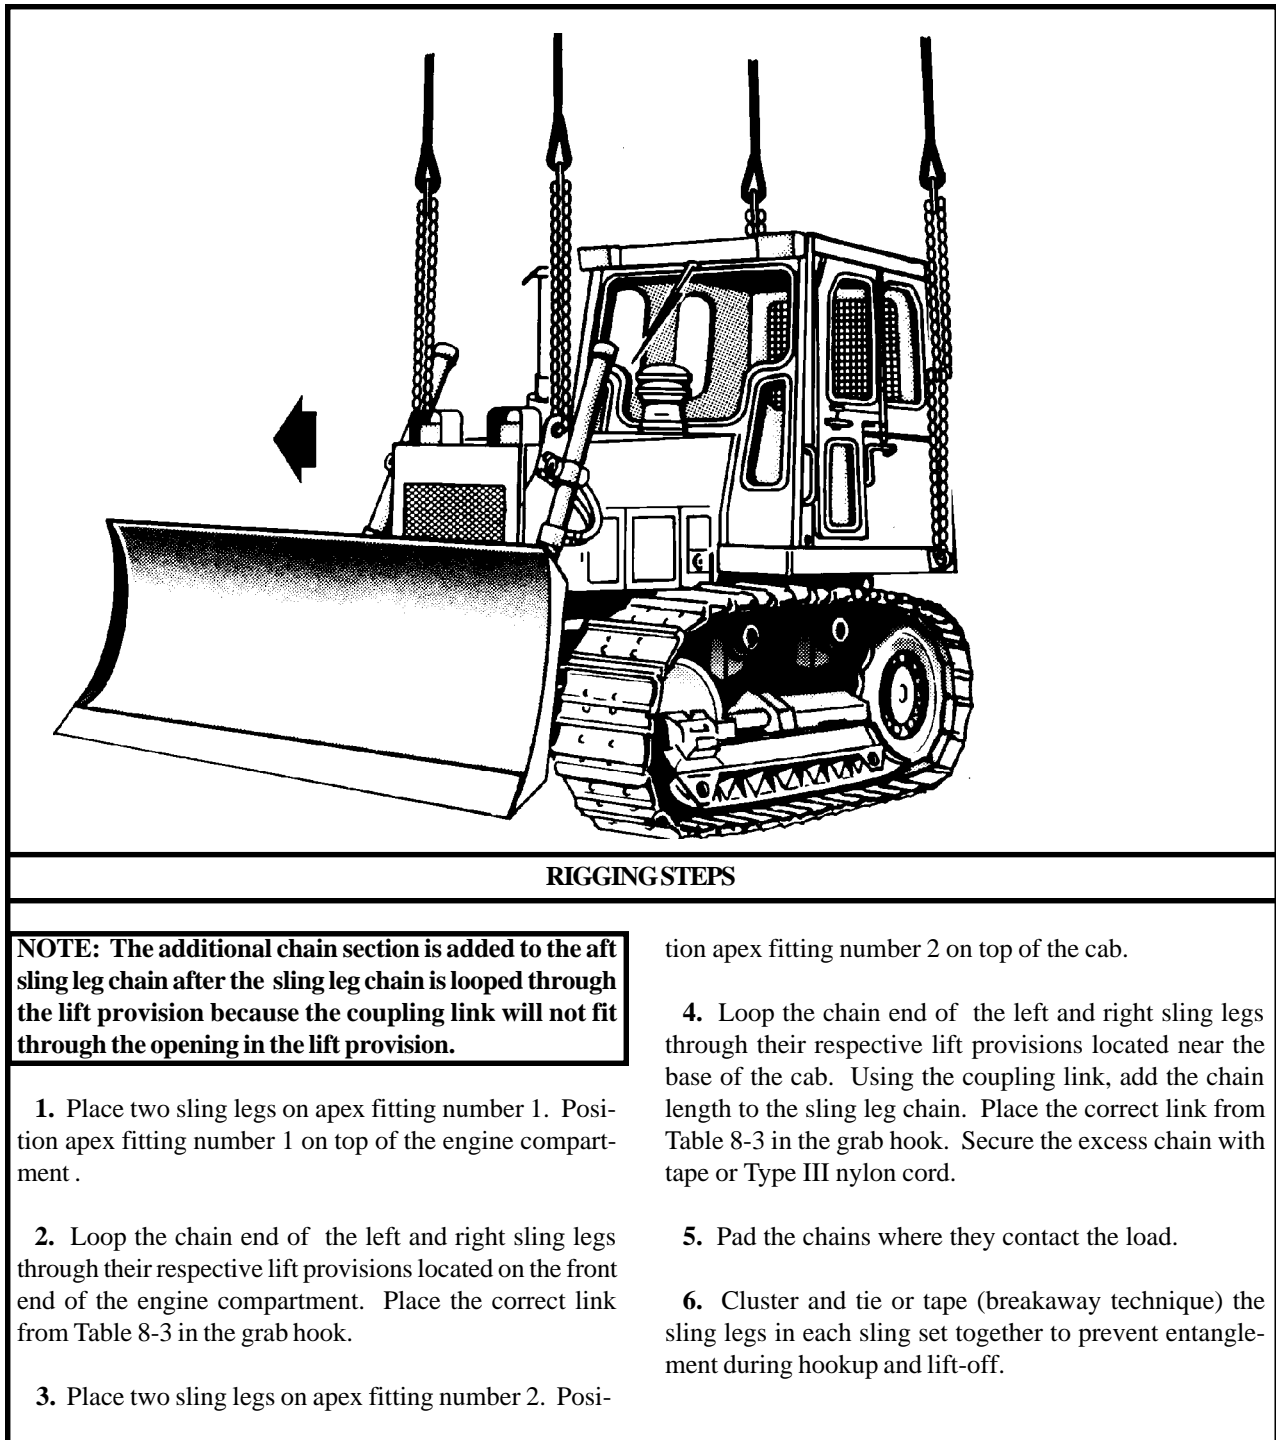

Figure 8-3. Tractor, Full-Track, Case Model 1150E
(2) **Rigging.** Rig the load according to the steps in Figure 8-3.
(4) **Derigging.** Derigging is the reverse of the preparation and rigging procedures in steps d (1) and d (2).